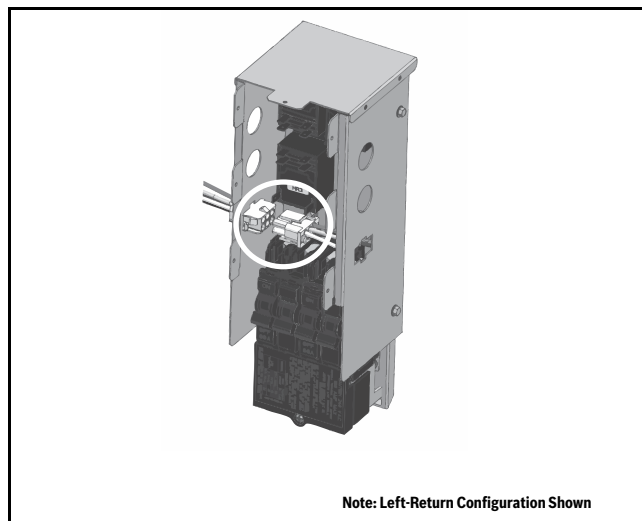

Fig. 32 Connect the Matting Connectors
2. Connect the matting plug to the connector that was inserted. (→Refer to Fig. 32.)